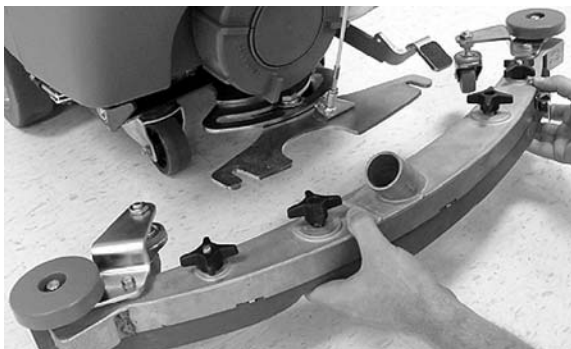

FIG. 5
3. Mount the squeegee assembly to the squeegee pivot bracket as shown (Figure 5). Make sure the knobs are completely seated into the slots before securing knobs.